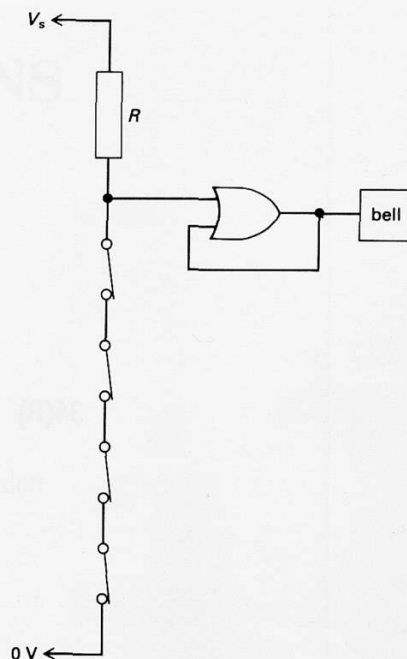

Figure C80
- c A practical arrangement uses the circuit shown in figure C80. In what way is this a further improvement?